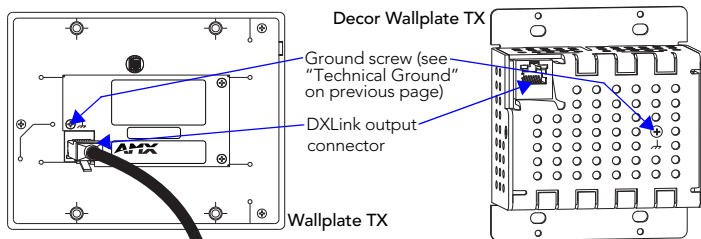

FIG. 7 Connect twisted pair cable to DXLink connector on rear of TX (Wallplate TX shown)
If the system is experiencing problems with delivery of DXLink signals to/from an Enova DGX Digital Media Switcher or Enova DVX Solution, adding a ground wire from the TX/RX to the switcher may improve performance (see FIG. 7). Technically this type of grounding is only required when a DXLink Transmitter or Receiver is connected to an ungrounded device, but this added grounding measure can be used at the discretion of the installer (for instructions, see the product manual).
2. Attach a twisted pair cable from the DXLink Input Board on the switcher through the mounting bracket to the DXLink connector on rear of Wallplate TX (FIG. 7).